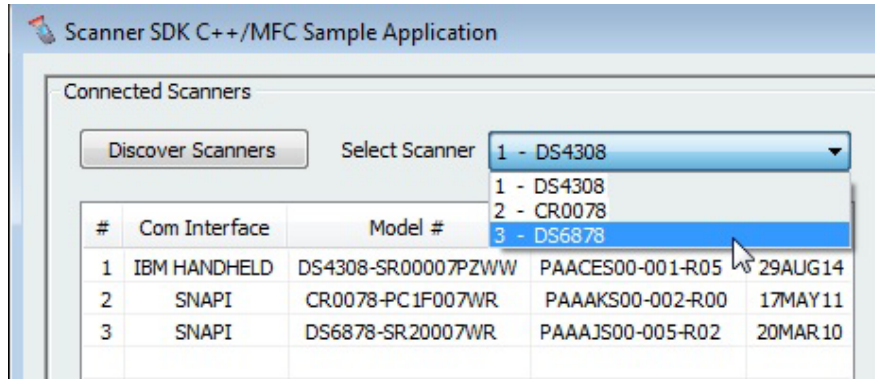

Figure 4-6 Scanner Selection
2. Select a "SNAPI" or "OPOS/IBM OPOS" mode scanner ID from the *Select Scanner* drop-down box. Your selection is reflected in the *Connected Scanners* window (see Figure 4-6 on page 4-12).